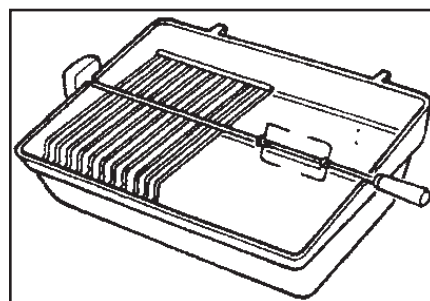

Fig. 11
2. The rotisserie can be used with a cooking grid if space allows. Place the meat closest to the handle on the spit to make handling easier. (Fig. 11)